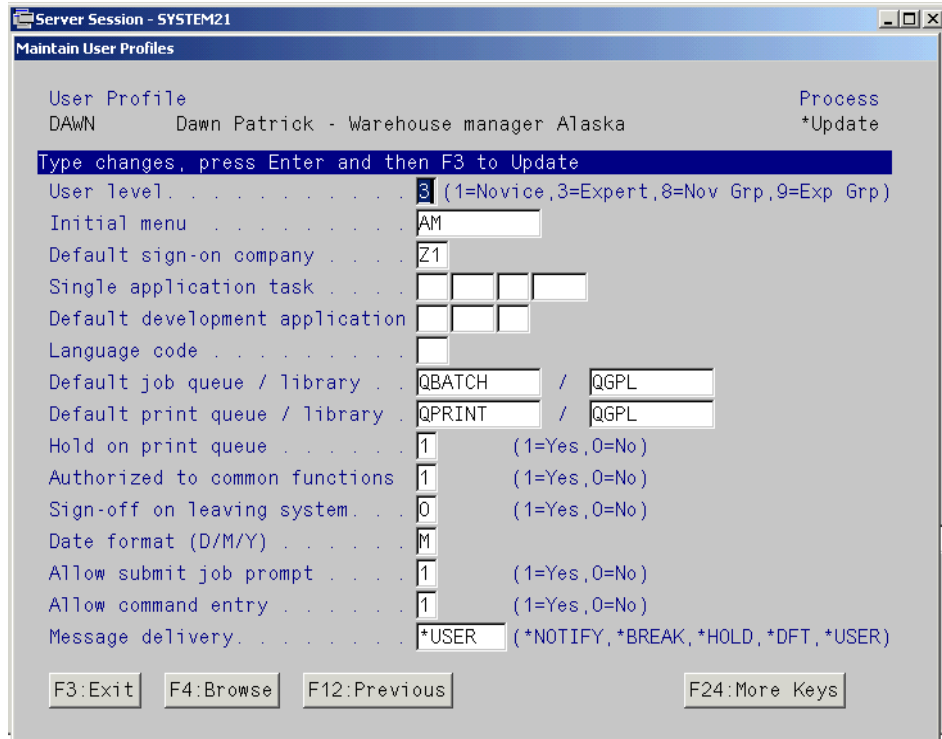

Figure 61. System 21 user profile maintenance
9. Following the create or change of the OS/400 profile, the System 21 user profile maintenance panel is presented. To reveal the full user profile details as shown in Figure 61, click the **More keys** button, followed by clicking the **Extras** button. Alternatively, you can press the F10 (Extras) key.